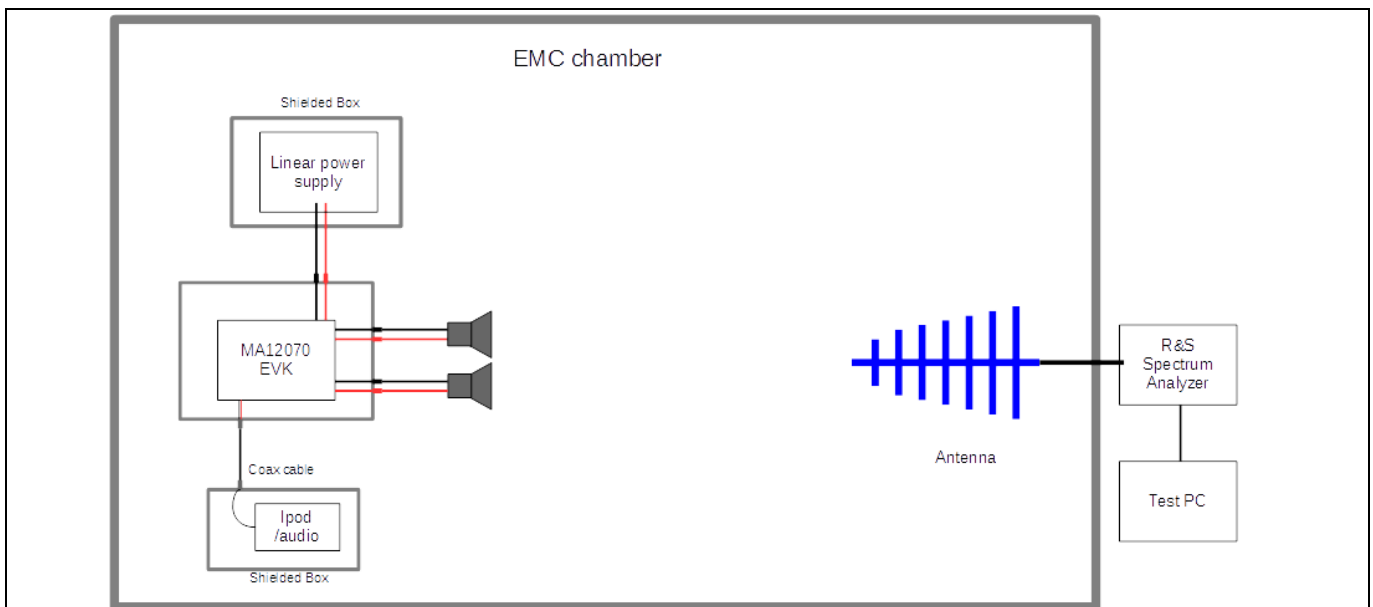

Figure 7 EMI measurement setup
- Board was positioned towards the antenna and the antenna was vertical (Figure 7)